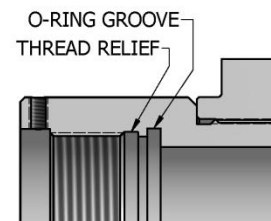

Fig. 3
**CAUTION5:** To ensure tool operates properly, install o-rings in o-ring grooves **NOT** thread reliefs unless stated otherwise (Fig. 3).